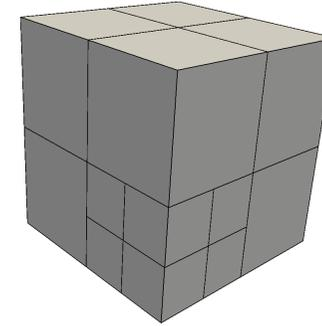

Figure 1: Octree – subdivision of a cube into octants
- An octree is a tree data structure in which internal nodes has exactly eight children [3] (Figure 1)